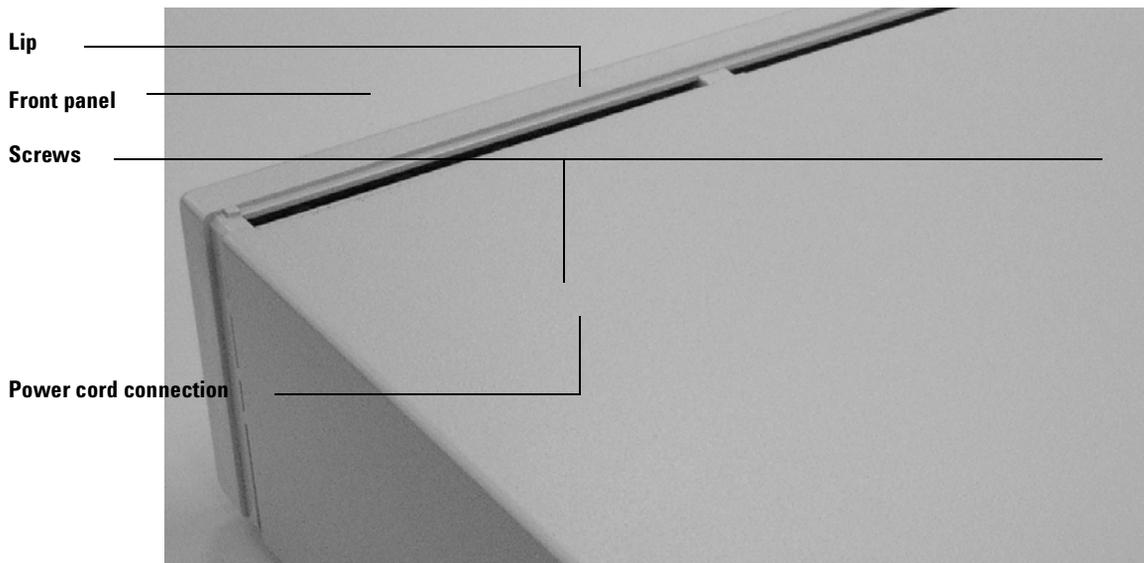

Figure 12 Removing the top cover
4 Remove the two screws attaching the top cover to the rear panel. (See Figure 12 and Figure 15 on page 51.)
- 1 Remove the top cover. (See Figure 12 on page 42.)